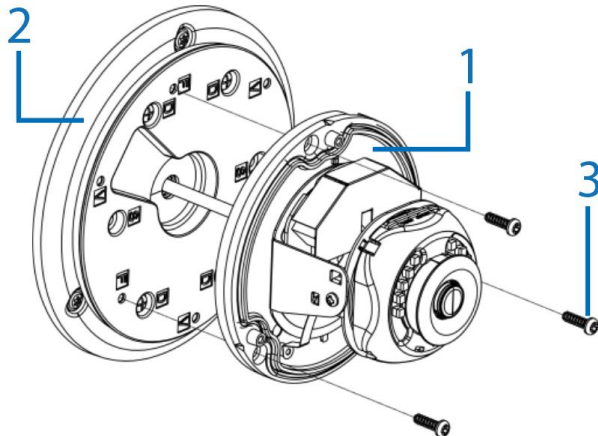

Figure 8
- C. Place the camera cable (1) (Figure 8) through the hole in the center of the adaptor plates.
- D. Hold the camera base (1) (Figure 8) up to the adaptor plates (2) (Figure 8) and align the three holes on the camera base with the three holes on the adaptor plates.
- E. Insert the three M4 x 0.7P x 10L screws (3) (Figure 8) into the three holes and securely attached the camera base to the adaptor plates.